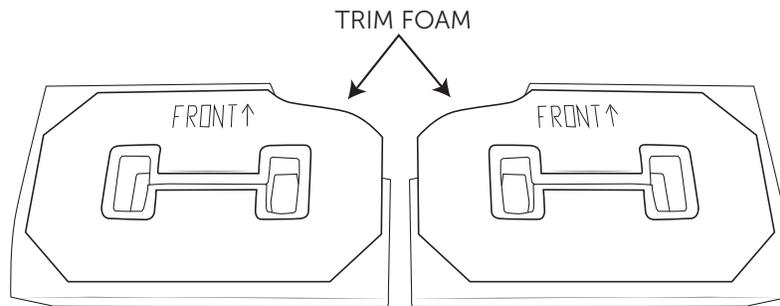

Figure 10
- Trim the upper, inside corners of the factory foam and around tow hooks (fig. 10)